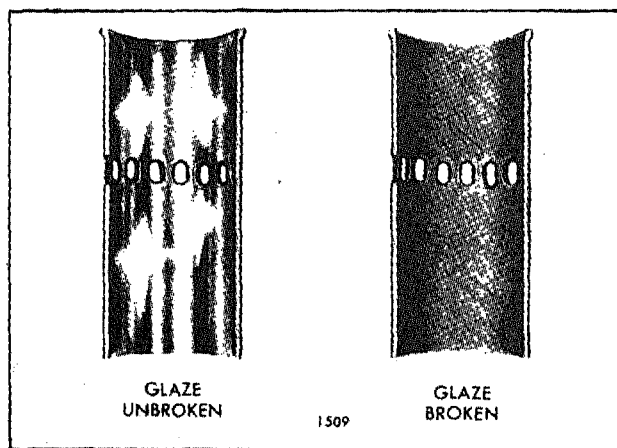

Fig. 5 - Glazed Surface of Cylinder Liner
1. To break the glaze (Fig. 5) which results after long periods of operation.